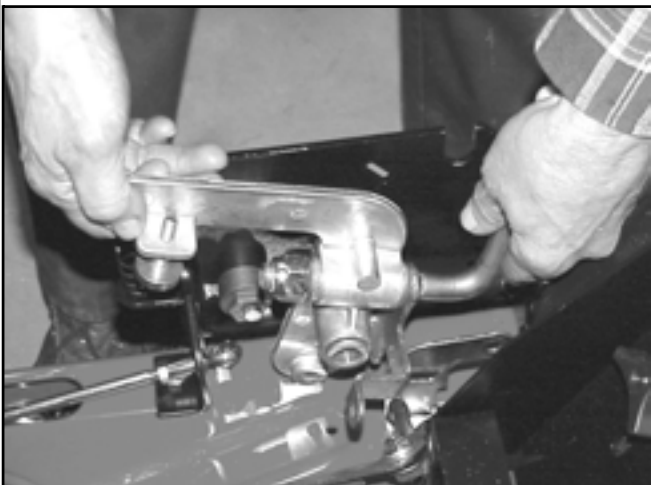

**Figure 71**
7. Remove the bolt and nut holding the bellcrank and remove (Figure 71).